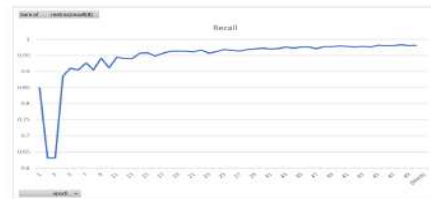

Figure 19 – Recall for YOLOv8 Object detection algorithm
Another important metric is recall, which assesses the model's ability to identify all objects within an image correctly also figure 19 is result of recall during epoch trend. It is calculated as the ratio of positives to the total number of actual positives, including true positives and false negatives. High recall indicates that the model can detect most of the objects, Recall = true positives (TP) out of all predictions (TP+FN).